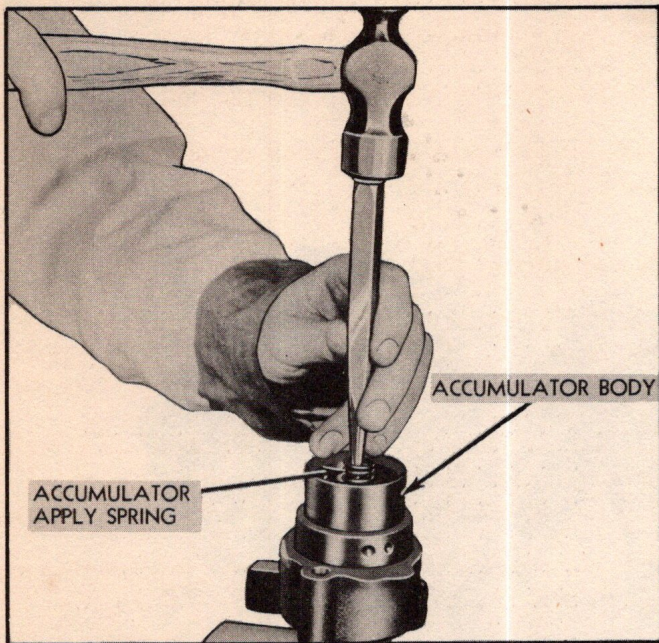

Fig. 171—Removing Accumulator Apply Spring
6. Rest accumulator body on a vise with soft jaws and tap accumulator piston through accumulator apply spring and accumulator body (Fig. 171).